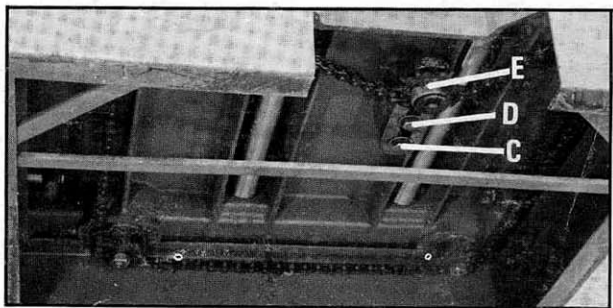
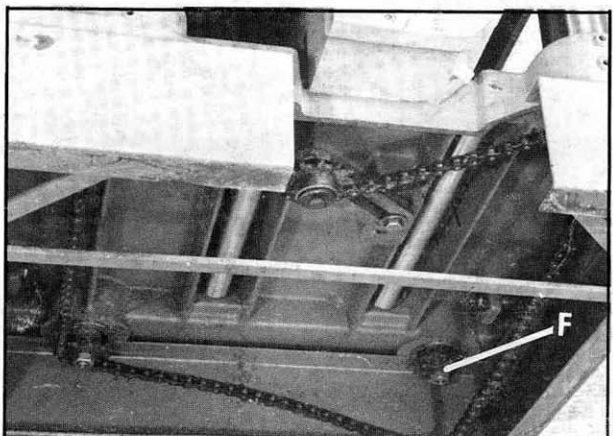

Fig. 61
Fig. 62
5. If head casting is not parallel to table, tilt planer on its side as shown in Fig. 61. Remove bolt (C) and loosen bolt (D) Fig. 61, which will allow you to move the idler sprocket assembly (E) far enough to release tension on chain as shown in Fig. 62. Remove chain from sprocket on end of headcasting that must be adjusted. In this case chain has been removed from sprocket (F).
6. Turn sprocket (F) Fig. 62, by hand to bring that corner into adjustment with other three corners. **IMPORTANT: THIS ADJUSTMENT IS VERY SENSITIVE AND IT SHOULD NOT BE NECESSARY TO TURN THE SPROCKET MORE THAN ONE OR TWO TEETH.** Turning sprocket (F) clockwise will decrease the distance between the table and headcasting. Counter-clockwise will increase the distance.
7. Replace chain being careful not to disturb the position of the sprockets and replace idler sprocket assembly (E) Fig. 61.